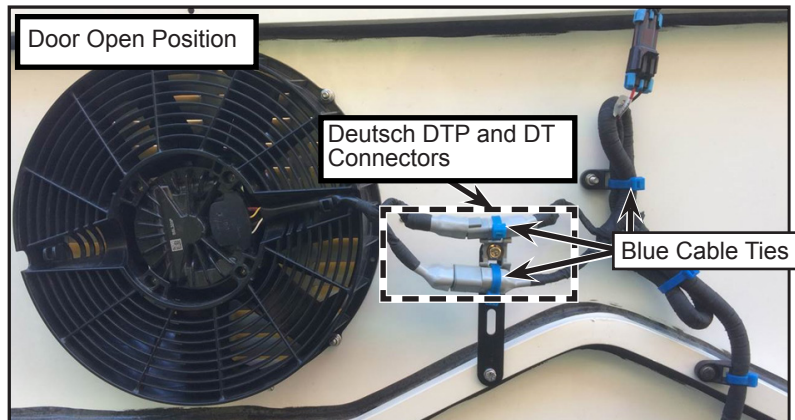

Figure 3 - Typical Engine Door Fan Deutsch DTP and DT Connectors Installation
- 1.9. Open the engine compartment door and locate the engine fan Deutsch DTP and DT connectors (see figure 3).
- 1.10. Cut the two blue cable ties on the dual tie mount securing the Deutsch DTP and DT connectors and one blue cable tie on the door at harness side (see figure 3).